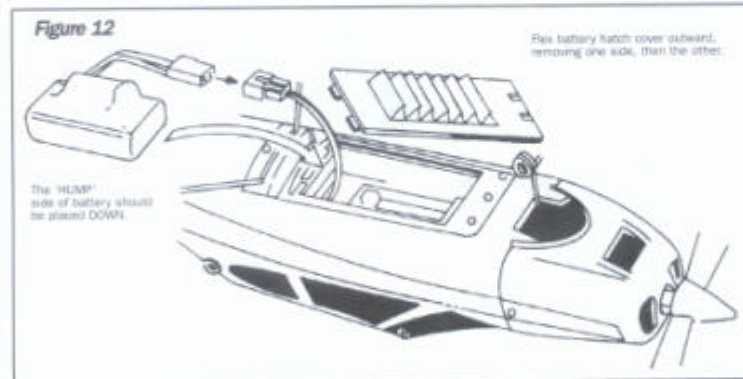

Figure 12
- Charge the on-board battery pack as previously instructed. Insert the charged battery as shown in **Figure 12**. Neatly fold the battery wires between the pack and the side of the case. Once the battery is inserted, snap on the hatch by carefully inserting one end of the hatch and then flexing the cover slightly until it snaps in on the opposite end. Cut two small pieces of tape and seal the edges of the battery hatch. This will ensure that the hatch stays on even during rough landings.